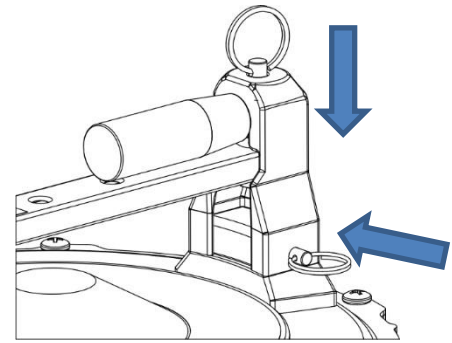

Figure 7
3. Align handle to handle cap post and assemble handle cap and pin in place with handle cap pin. *See figure 7.*